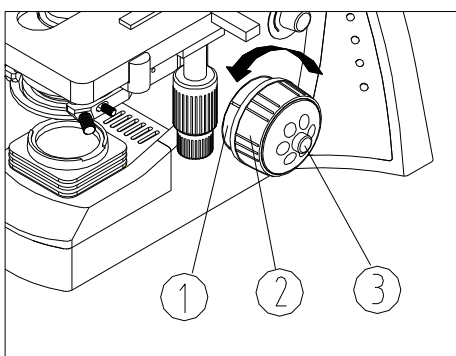

Fig.23
3.3.8 Adjusting the tension adjustment collar (Fig.23)